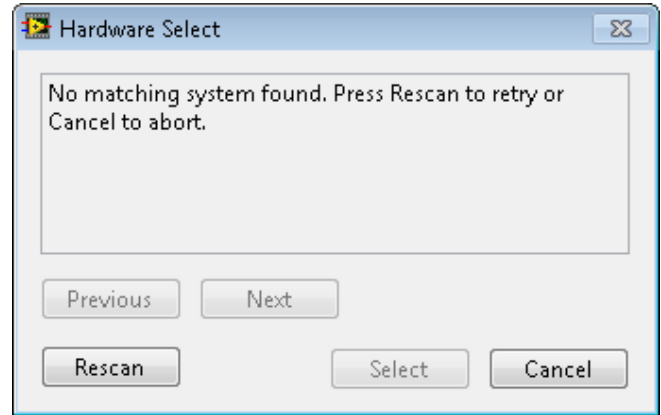

Figure 5. Connectivity Error Alert
2. If the evaluation system is not connected to the USB port when the software is launched, a connectivity error is displayed (see Figure 5). Simply connect the evaluation board to the USB port of the PC, wait a number of seconds, and click **Rescan**. Follow the instructions. If you click **Cancel**, the software enters **Demonstration Mode**.